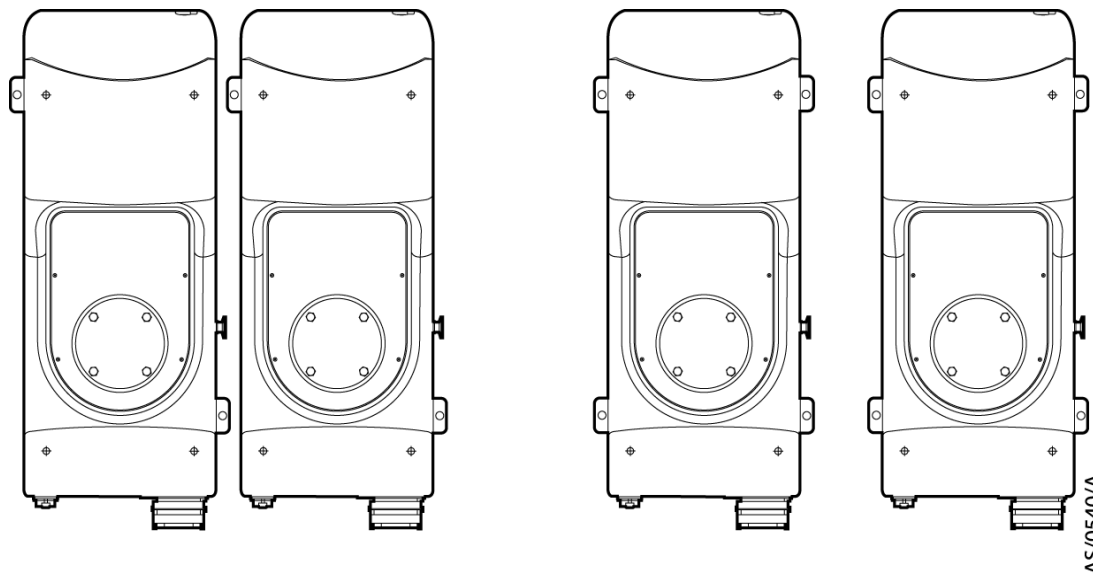

Figure 6 - System arrangement to reduce effective footprint (if required)
- Although the iGX system is supplied with four seismic brackets, two brackets are capable of protecting the system during an earthquake. The system can therefore be secured as shown in Figure 6 for example, to reduce the effective system footprint if required.